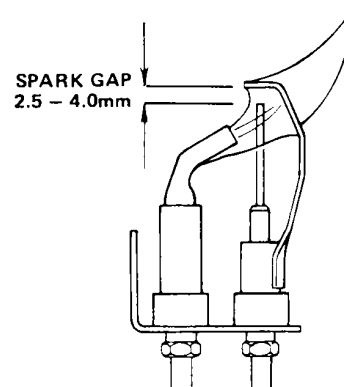

FIG. 29 PILOT BURNER SPARK GAP TOLERANCES
The pilot is pre-set and no adjustment is required. The pilot flame envelope should cover the electrode tip and spark earthing strip see FIG. 29. If the pilot flame is not as illustrated, remove and clean the pilot as described in the Servicing Instructions Section 4, PILOT BURNER, Page 22.
- H. Ensure that the spark gap is as illustrated in FIG. 29.
- 6. Replacement is the reverse of removal. On re-assembly ensure that the spark gap is as illustrated in FIG. 29.